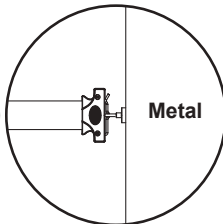

Figure 2
2. The magnet is hung on the fixed pin. Through the magnet, the warning tape can be directly connected with the metal surface (**see Figure 2**).